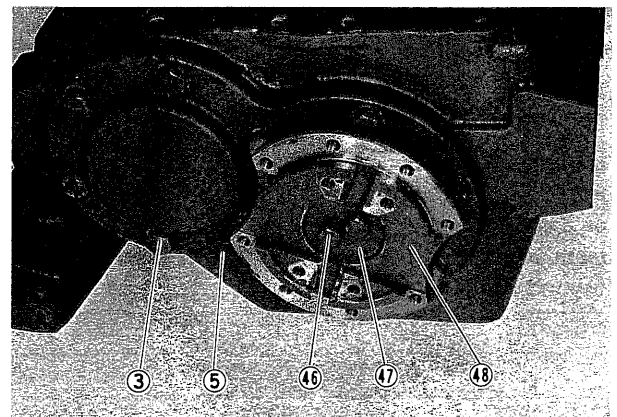

Fig. 46
- (5) Remove attaching bolts (3) and (46) and remove cover (47) together with coupling (48) and cover (5). (Fig. 46)